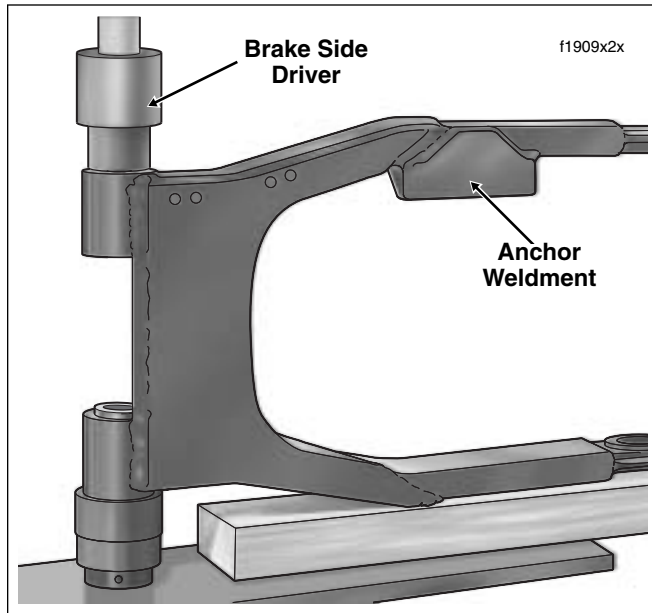

Figure 2-100. Press In Brake Side Bearing
- c. Insert driver stamped "Brake Side" into swingarm tube until it contacts installed bearing. Center driver under ram and press on brake side bearing until shoulder on tool makes contact with casting of swingarm. See Figure 2-100.